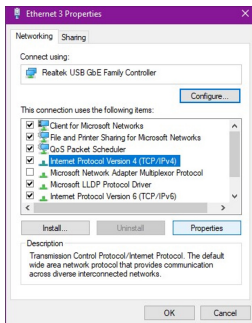

Figure 6
- In the **Properties Window**, select **Internet Protocol Version 4 (TCP/IPv4)** and then click **Properties** to the lower right. (Figure 6)